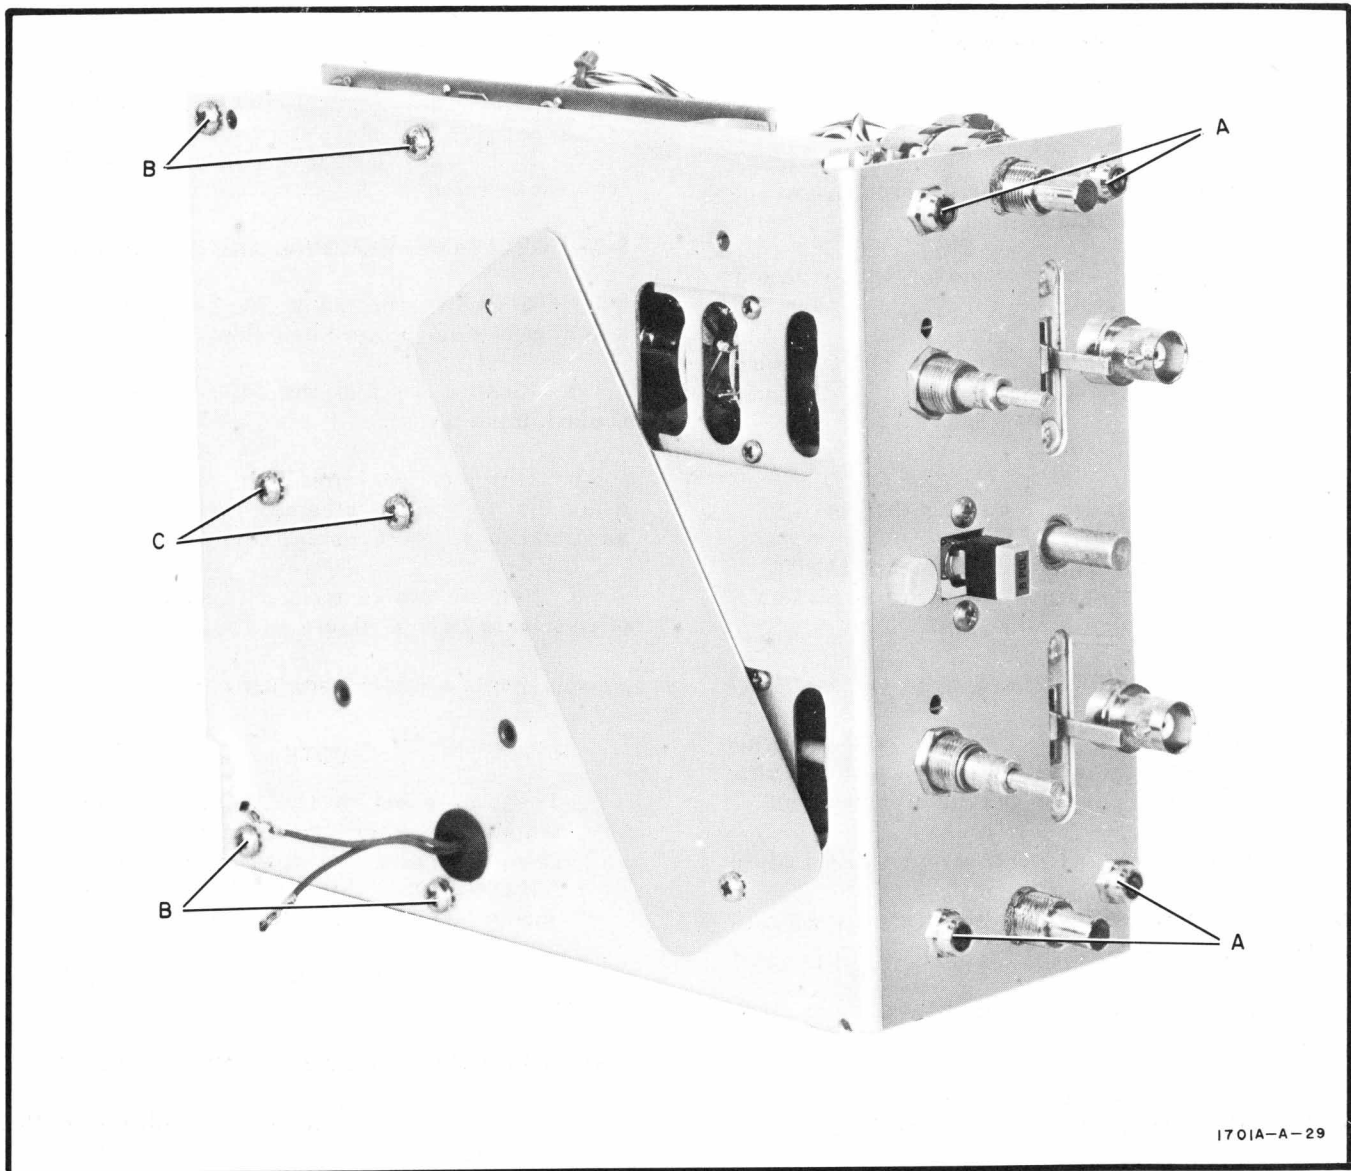

Figure 8-1. Vertical Module Mechanical Parts Removal
c. Remove two center screws from bottom side of vertical module (C, figure 8-1).
b. Remove locking nuts (A, figure 8-1).
c. Remove six screws on bottom side of vertical amplifier module (B and C, figure 8-1).